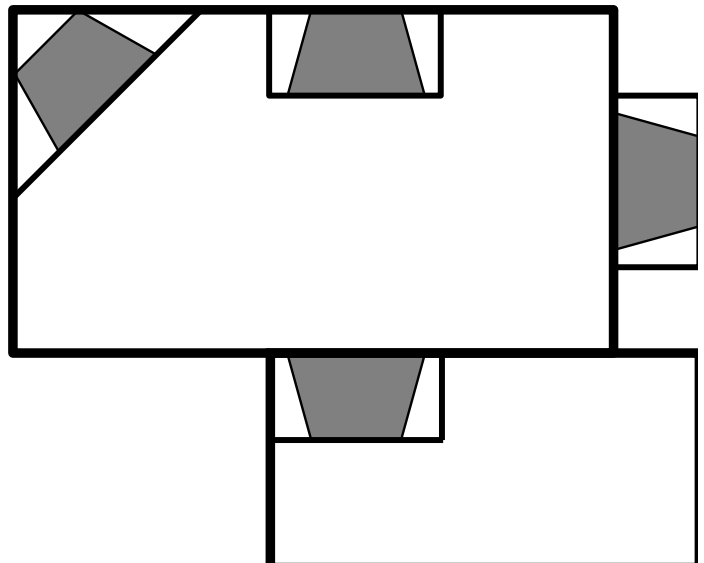

Figure 7 - Suggested Locations
- Minimize modifications to existing construction. See *Figure 7* for location suggestions.